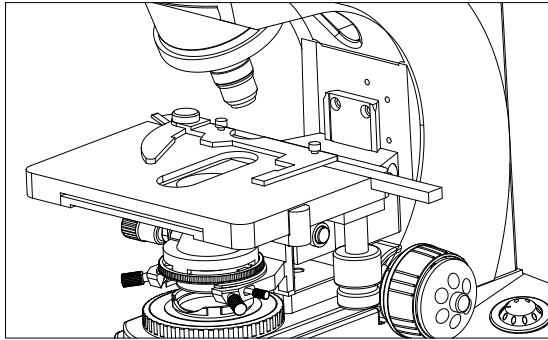
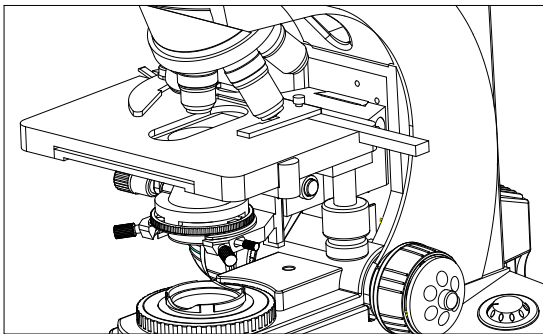

Figure 7
Figure 8
2. Wresting the lowest magnification objective onto the nosepiece from the left or the right side (figure 7), then push the nosepiece clockwise, then place other objectives by the sequence of low to high magnification (figure 8).